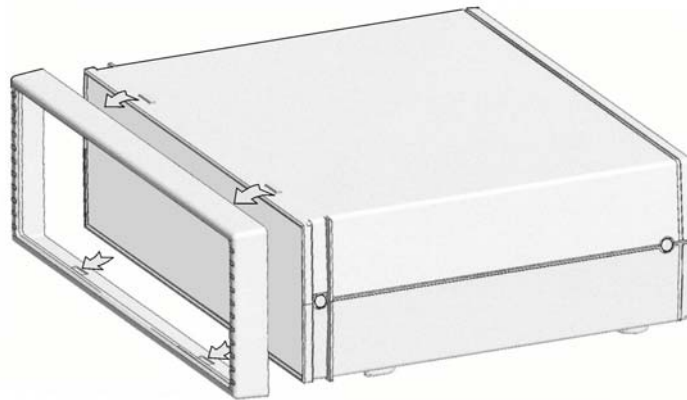

Fig. 1
2. To gain access to the two front case fixings, first remove the front bezel by easing the top edge up and forward to clear the two short retaining ribs on the case, followed by the same procedure for the bottom edge. Refer to figure 1.
8. Refit the bezel; push the front edge of the bezel in the vicinity of the retaining ribs (figure 1) until the bezel 'snaps' onto the case.